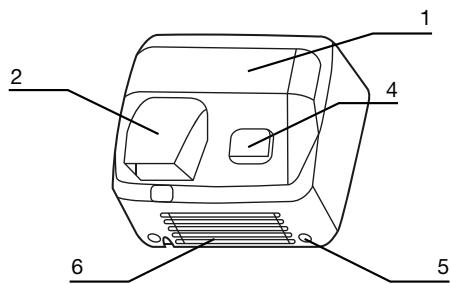

Fig. 1
DESCRIPTION OF THE MODELS (FIGURE 1)
- (Figure 1) Remove the two screws located on the lower part of the appliance (5). Keep the screws and put them back in place once the appliance has been wall-mounted.
- (Figure 1) Remove the metal cover (1) making sure the earth cable and the electrical connector are disconnected.